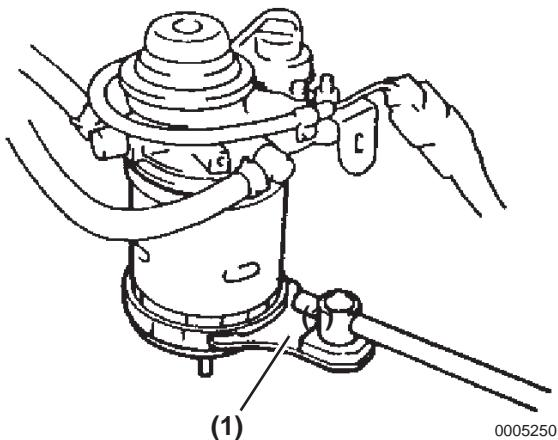

Figure 6-4
3. Loosen the drain plug to drain the fuel and then remove the fuel filter using a fuel filter wrench (Figure 6-4, (1)).